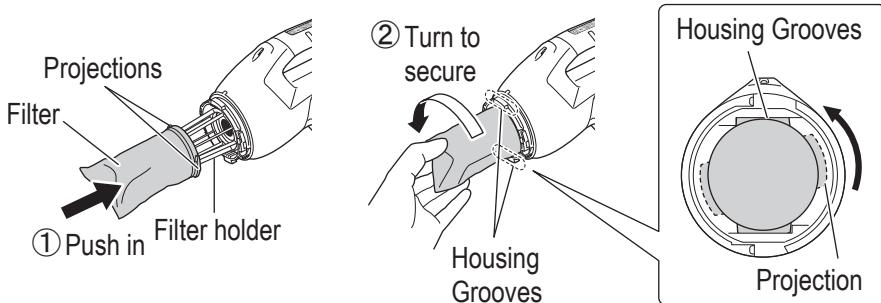

Fig. 9
(4) Install the filter (Fig. 9)